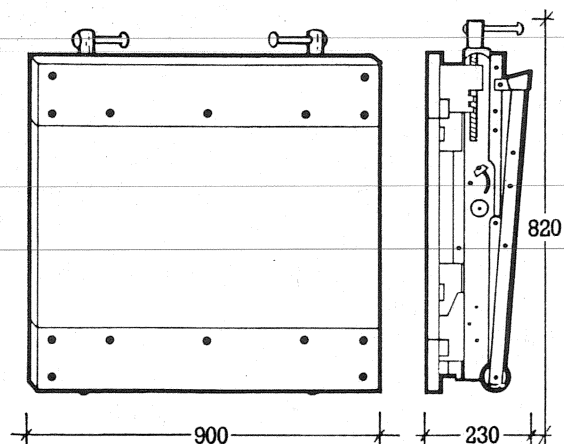
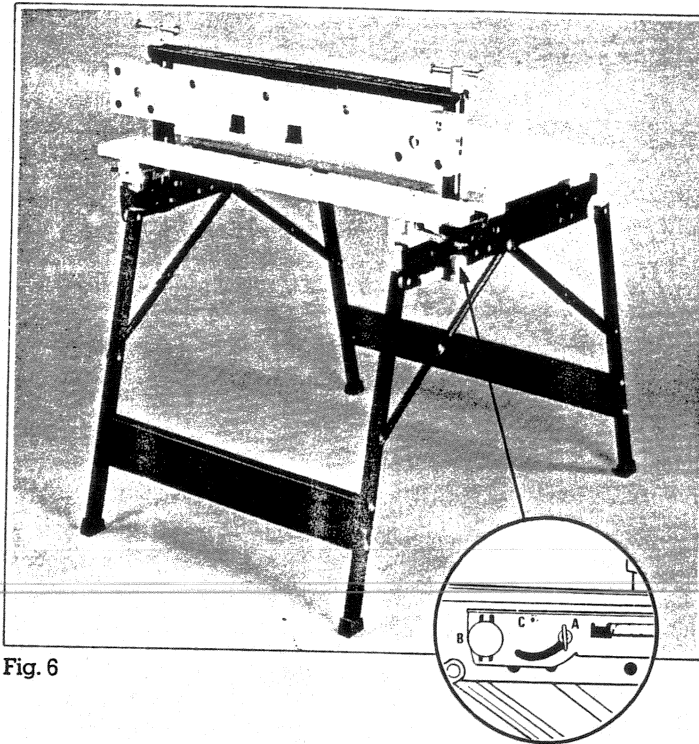
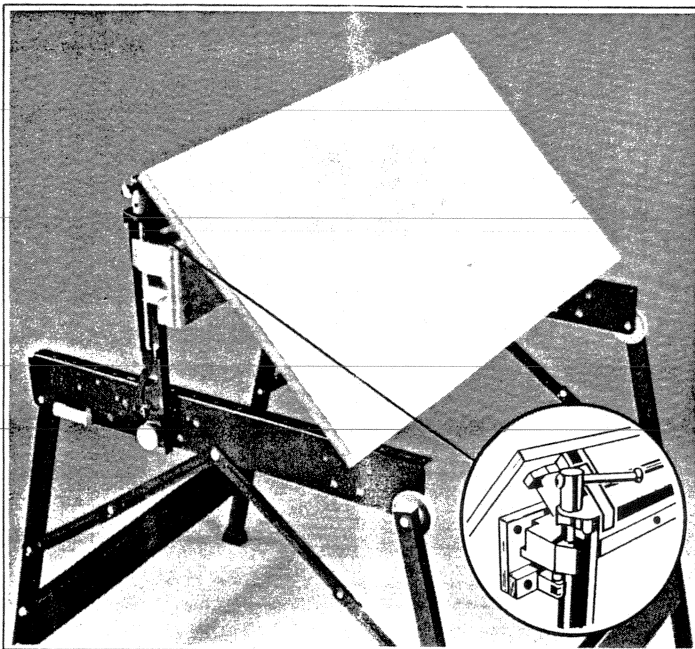

Fig.1
Fig. 6
Fig. 9
(C) Two metal drawing board brackets as shown in fig. 9.
Note: remember to use the swivel jaw clamping press location holes (D) fig. 1.
Follow the procedure shown in 90° clamping fig. 6 ensuring that the metal pins of the cam locks are released into the holes provided for 45° angles.(E) fig. 1.
The WM2000 can be converted into a drawing board with the aid of the two metal brackets provided. Follow the set up procedure in fig. 6. 90° vice adjustment. Set the swivelling vice jaw as shown in fig. 9. The removable vice jaw should be either removed as shown in fig. 9. or positioned at the front end of the parallel rails.
Lock the metal brackets into the plastic base supports (rectangular supports) of the centre board and clip over the front top cross member. As shown. fig. 9.